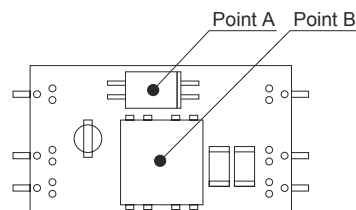

Fig.7.3 Temperature Measuring Points in the case of Forced Air Cooling
① SU3
■ In the case of forced air cooling (1m/s), please have sufficient ventilation to keep the temperature of point A in Fig.7.3 at 115°C or below and that of Point B at 120°C or below.